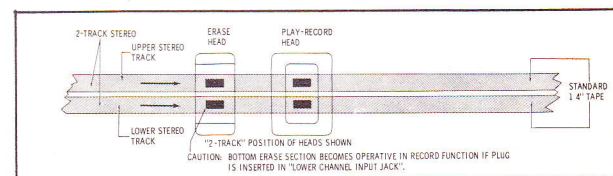

Fig. 6. "2-Track" Position of Heads Shown for Stereo 2-Track Record or Playback
- b. Turn the head track selector knob to the "2-Track" position. This action moves the heads in a position with respect to the tape as shown in Fig. 6.
- b. Place the Speed Change knob to the desired tape speed. Make sure that the head track selector knob is turned to the "2-Track" position. The "2-Track" position of the heads is shown in Fig. 6.